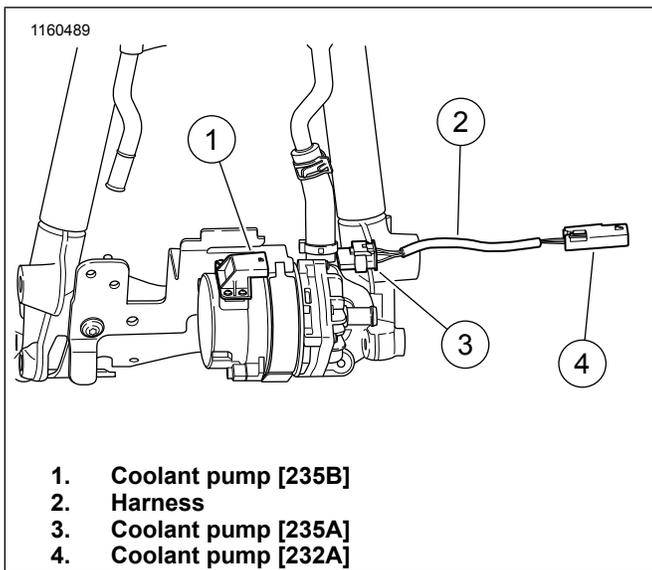

Figure 10. New Coolant Pump Harness
14. See Figure 10. Install **new** harness (2).